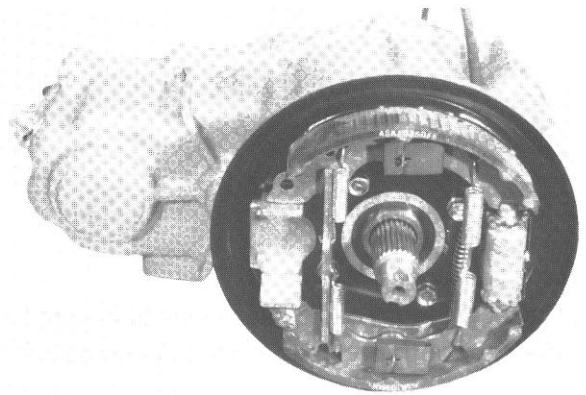

Fig. 9-60
- 6) Install the center brake backing plate on the rear case, referring to Fig. 9-60 for its correct installing position and angle.